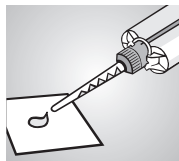
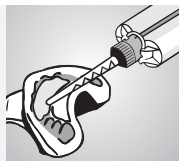

Fig. 5
Fig. 6
**C&B Prompt™** base material and catalyst are automatically mixed in the correct proportion when extruding by dispensing gun. Before beginning work with the Automix dispensing gun, always extrude a small (pea-sized) amount and discard (Fig. 5). Apply **C&B Prompt™** to deepest parts of impression first and evenly fill impression up to gingival level (Fig. 6).